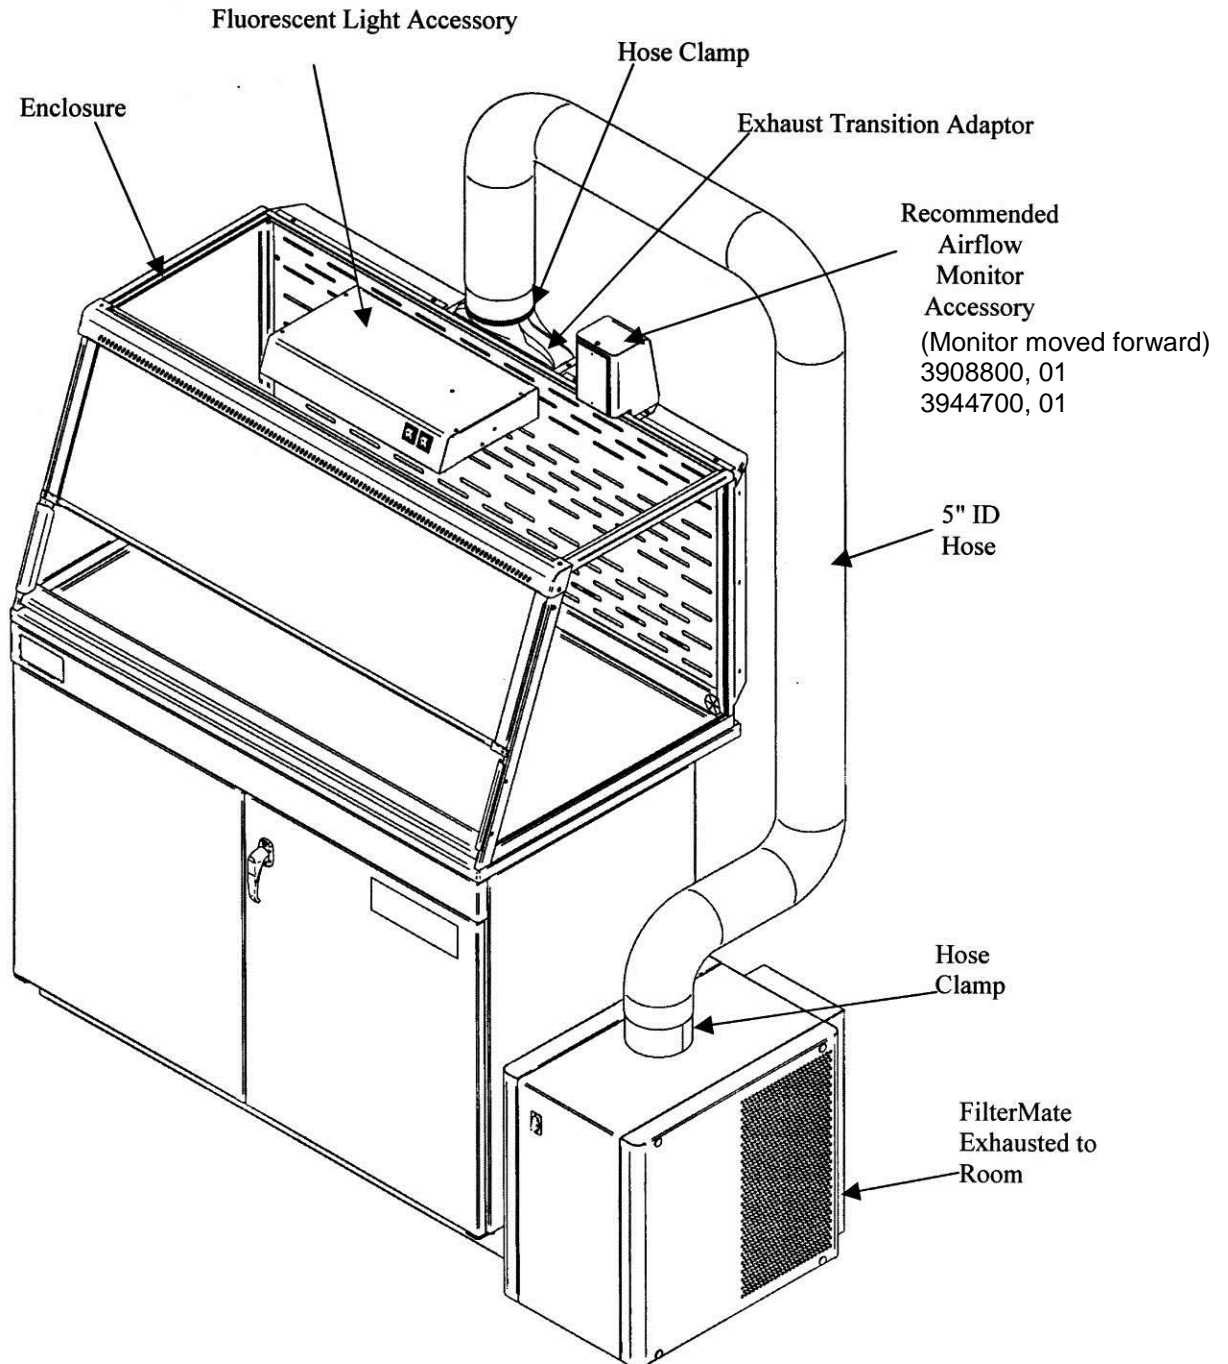

Figure 3-1
- Fasten the transition exhaust adapter to the FilterMate with two screws provided. See Figure 3-1.